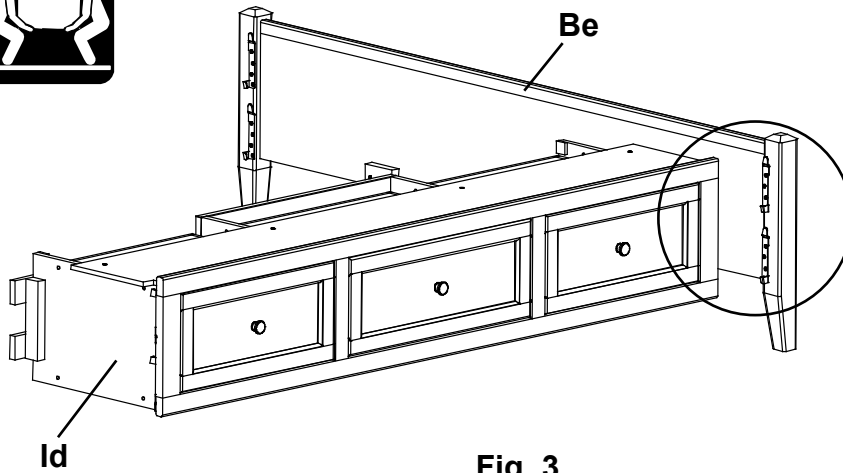

Fig. 3
3. To attach the Footboard (Be) to the Pedestal Assembly (Id), align the Brackets and slide the Pedestal Assembly down on to the Footboard (Be). See Figures 3 and 3a.